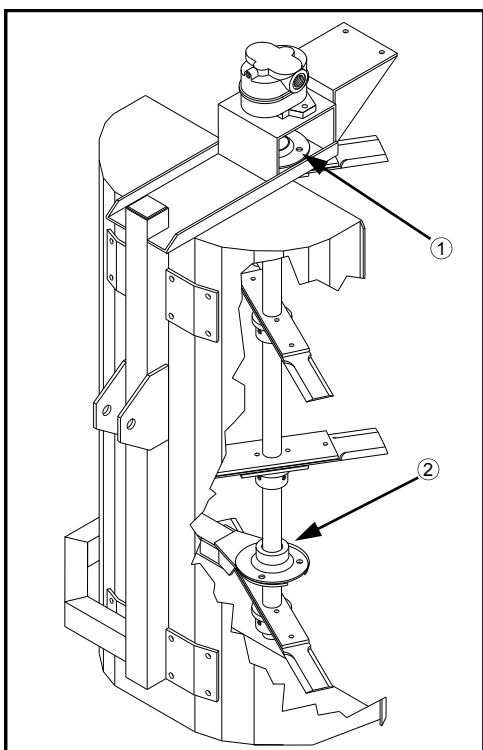

FIG 4.7
Grease both upper (fig. 4.7, item 1) and lower (fig. 4.7, item 2) shaft bearings 4 times a day. Suggested times are morning, mid-morning, noon, and mid-afternoon.